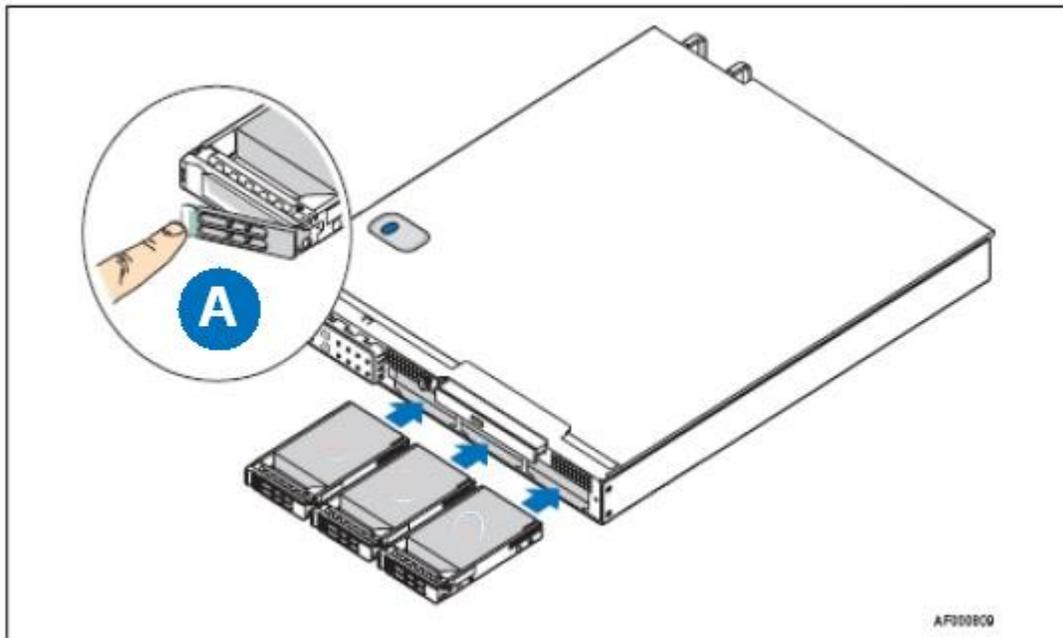

Figure 25: Inserting New Drive Assembly into Chassis
2. With the drive tray locking lever fully open, push the drive tray into the drive bay in the chassis until it stops (Figure 25: Inserting New Drive Assembly into Chassis).
3. Press the lever until it snaps shut to close the hard drive in the bay (Inset “A” in Figure 25: Inserting New Drive Assembly into Chassis).